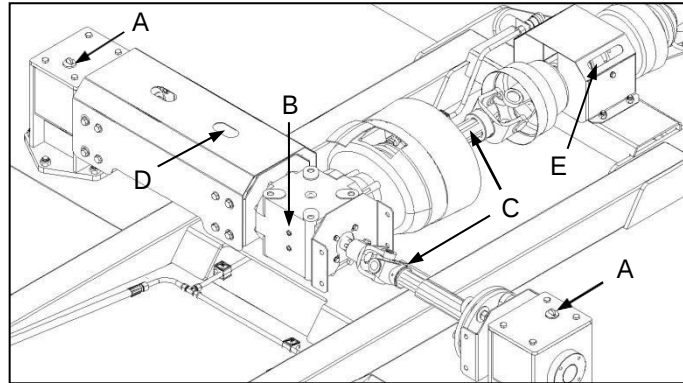

Fig. 10 (F60-350VT)
- ✓ A dipstick (Fig. 10-A) is provided on each of the outboard gearboxes for this purpose. The oil level should fall within the area indicated on the dipstick.
- ✓ The centre gearbox is equipped with oil filling ports. Remove the upper filler plug (Fig. 10-B) and add oil through the filling port so that the oil level coincides with the bottom edge of the hole.
- ✓ Elk van die buiteratkaste het 'n peilstok (Fig. 10-A) vir hierdie doel. Die olievlak moet binne die perke val wat op die peilstok aangedui word.
- ✓ Die sentrale ratkas is van olie vulgate voorsien. Verwyder die boonste vullerprop (Fig. 10-B) en voeg olie by totdat die olievlak gelyk is met die onderste rand van die gat.
- ✔ Intermediate shafts (Fig. 10-C, with cover removed for clarity) should have grease applied to the UV joints as well as the telescopic tubes. Note that both these locations are accessible through apertures provided on the intermediate shaft cover (Fig. 10-D).
- ✔ Apply grease to the double pedestal bearings (Fig. 10-E), also accessible through the aperture provided.
- ✔ Tussenasse (Fig. 10-C, met skerm dekking verwyder vir duidelikheid) se kruiskoppelings en teleskopiese buise moet gegries word. Let op dat al hierdie dele deur openinge in die tussenas-skerm dekking bereik kan word (Fig. 10-D).
- ✔ Ghries die dubbele voetkoeëllaers (Fig. 10-E), wat eweneens deur die betrokke opening bereik kan word.